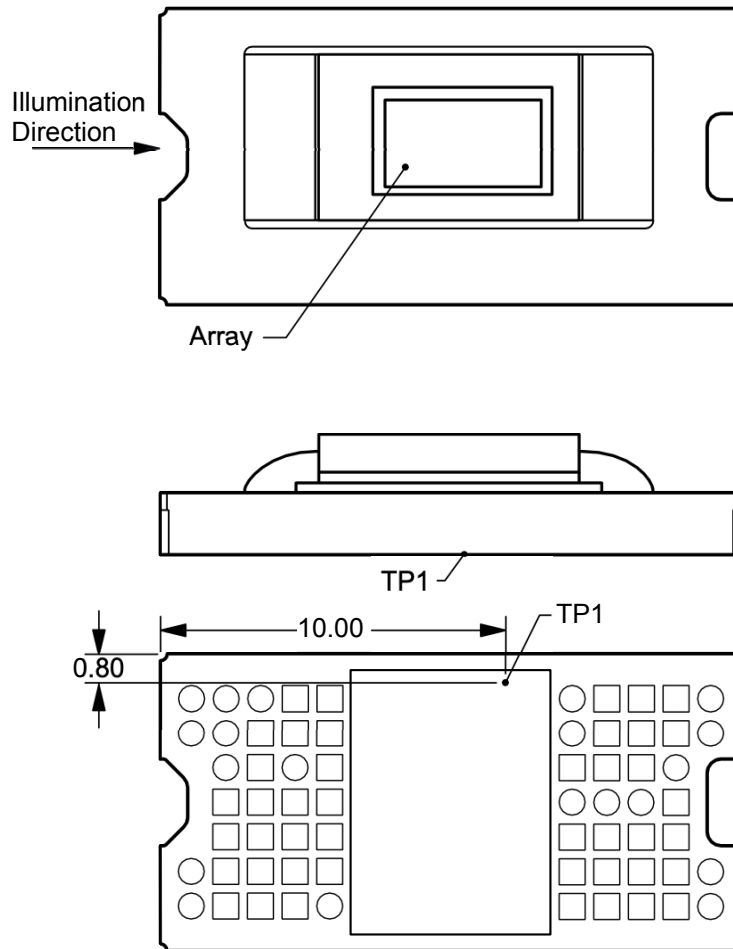

図 7-4. Thermocouple Location
Relationship between array temperature and the reference ceramic temperature (thermocouple location TP1 in 図 7-4) is provided by the following equations.
- T_{CERAMIC} = measured ceramic temperature (TP1 location in 図 7-4) (°C)